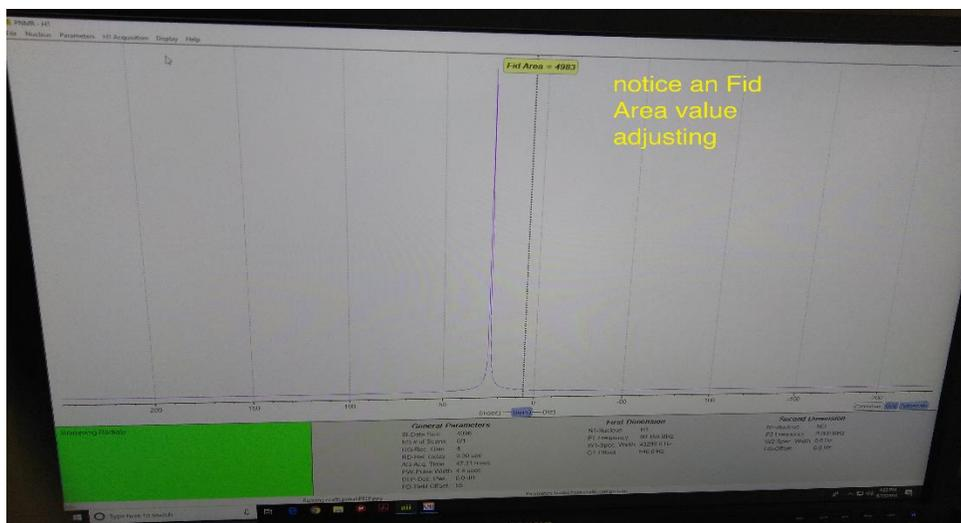

Figure 9. aii software screen showing the Shimming process in progress.
- 7) Click 'CNTRL Q' or click on the left bottom of the screen that is yellow (see figure 8). The screen will change as Figure 9. Wait for 3-5 minutes till the NMR complete the shimming process. Once the shimming process is complete the left bottom corner will change from green to grey.